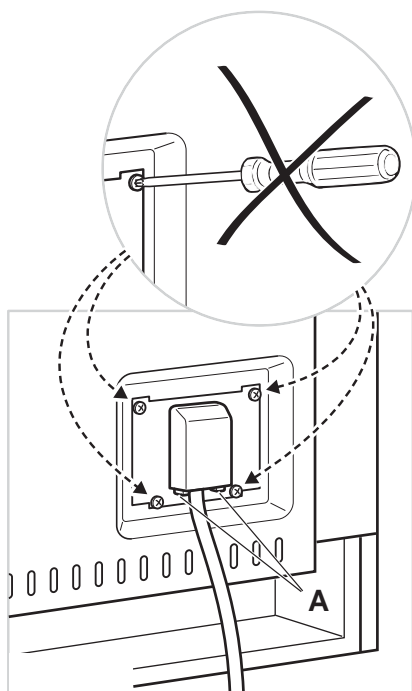

Fig. 11 Terminal block
- 1 Unhook the terminal board cover by inserting a screwdriver into the two hooks 'A' (fig. 11).